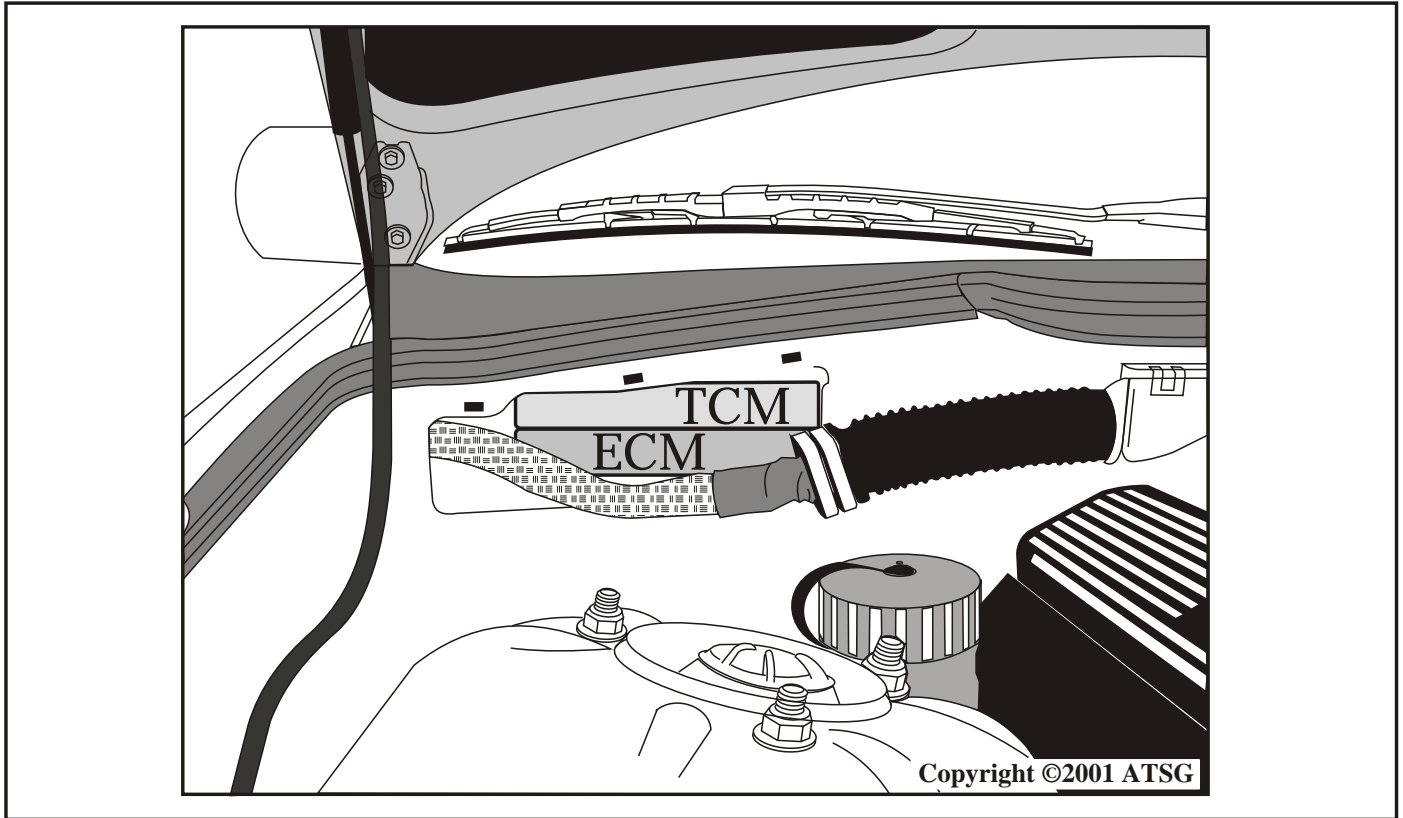

Figure 1
- a. 1992 to 1995 318i & 325i vehicles, the unit can be found in the passenger side engine compartment behind a cover plate as seen in Figure 1.